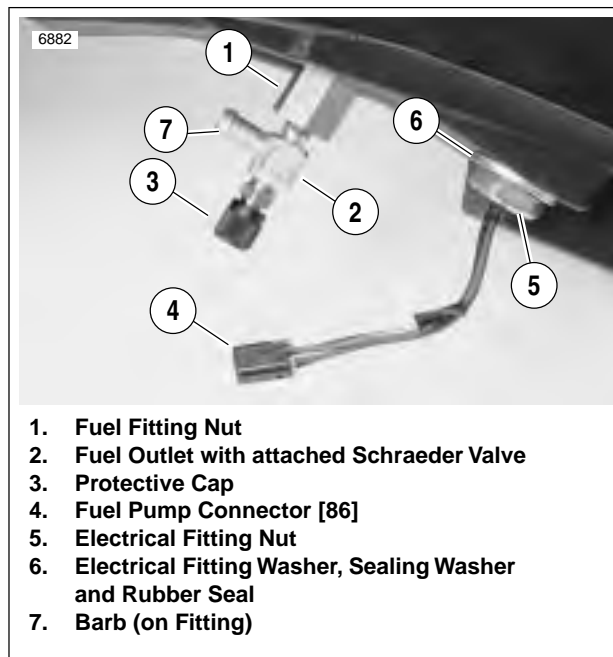

Figure 4-89. Fuel Pump Within Tank
4. See Figure 4-89. Remove fuel fitting nut (1).
5. Remove electrical fitting nut (5), washer, sealing washer and rubber seal (6).